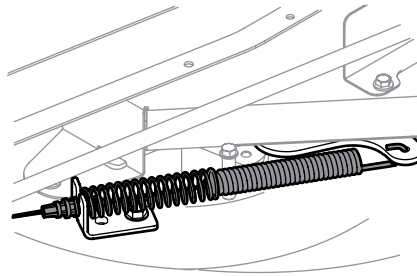

Figure 4-7
8. Carefully remove the PTO cable from the rear of the cutting deck. Remove the spring from the deck idler bracket. See Figure 4-7.